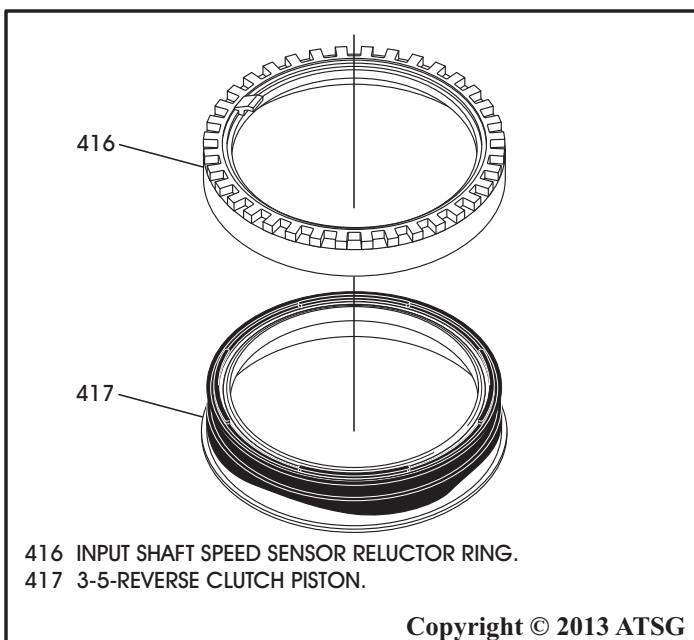

Figure 159
51. Lubricate the lip seals of 3-5-Rev clutch piston and install into the speed sensor reluctor ring, as shown in Figure 159.